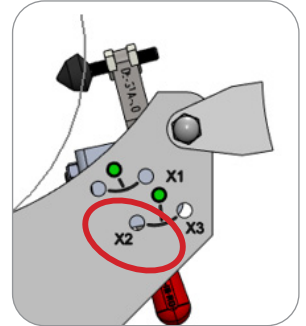

Figure 4A
9. Ensure Universal Stand is configured for X-2. (Figure 4A)